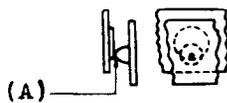

Fig. 3 - Contact Alignment
***2.03 Contact Alignment** — Fig. 3(A): Contacts shall line up so that the point of contact falls wholly within the boundary of the opposing contact at all times during contact.